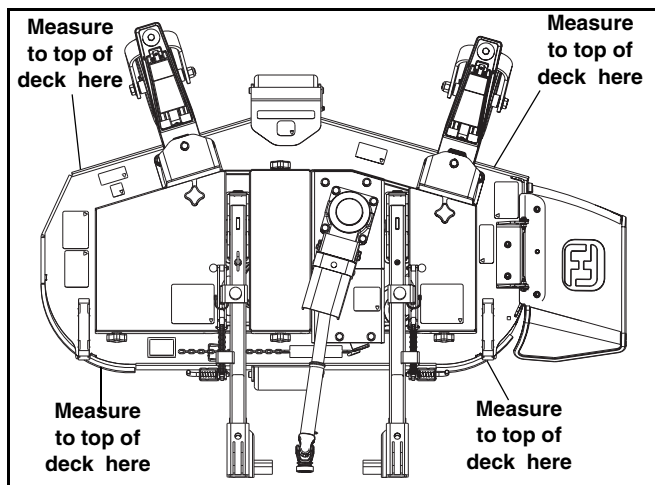
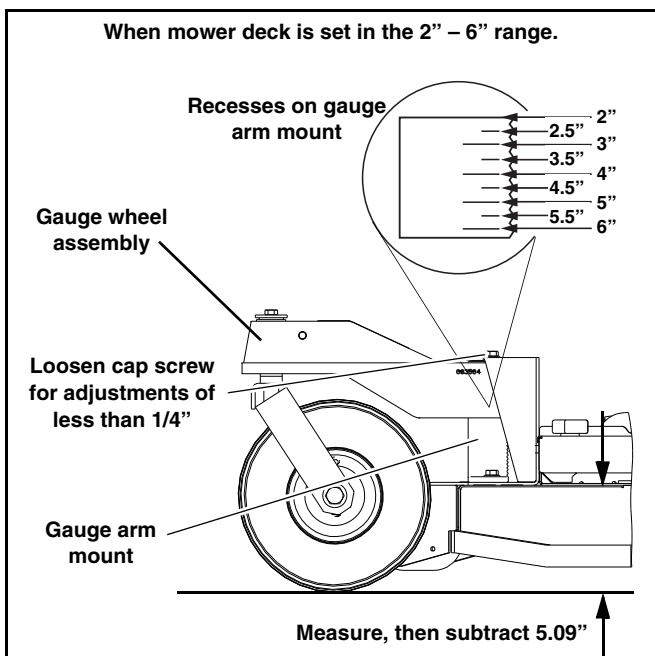

Fig. 3-6
Fig. 3-7
6. Measure from the level surface to the top of the deck. Fig. 3-6
The top of the deck is 5.09" higher than the actual cutting height. Take the measurements at each of the areas shown (Fig. 3-6) and subtract 5.09" from them. That will give the actual cutting height for that location.
NOTE: Minor leveling can be accomplished by moving the 1/2" cap screw on **either** front gauge arm mount forward in the slot, to raise cutting height, or backwards to lower cutting height. Fig. 3-7
For a quick check of height adjustments: Measure from level surface to top of mower deck (as indicated in Fig. 3-7) and subtract 5.09 inches. The balance will be blade height. To be sure mower deck is level, measure at front and back on both left and right side of deck. Fig. 3-6
NOTE: 2" – 6" cutting height range: Recesses on side of gauge arm mounts visually indicate cutting height in 1/2" increments. Each notch between recesses represents a 1/4" adjustment. When the bottom (lowest) recess is just visible over top of gauge wheel assembly, cutting height is set at 6", when the mower deck is set in the 2" – 6" range (see Fig. 3-7). Next mark up indicates 5 1/2", then 5" and so forth. Top mark indicates 2". Move gauge wheel assemblies all the way to top of arms for 2" cutting height.